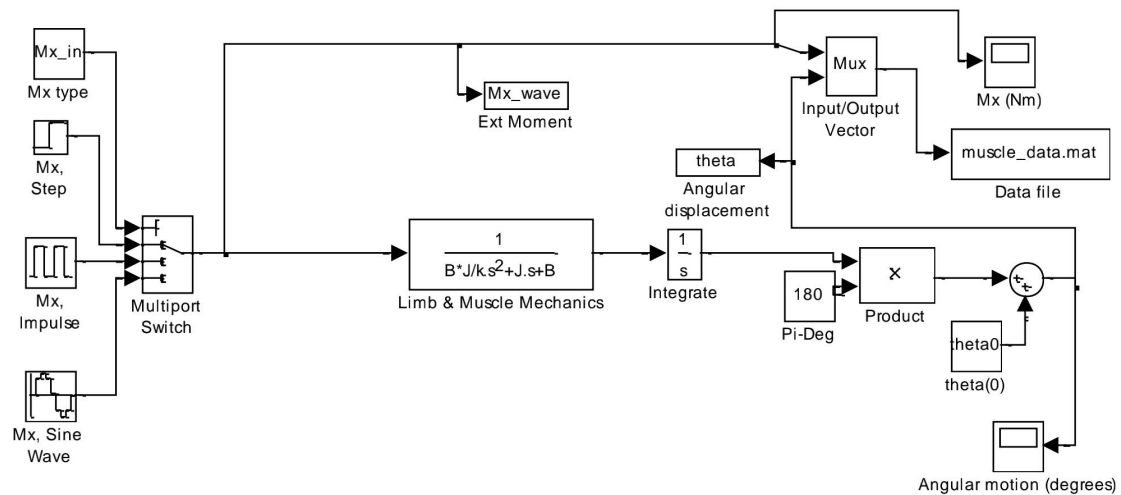

Figure 7. The SIMULINK model of the limb and muscle system.
Open the **bsm23muscles.mdl** file and insert the above transfer function as shown in figure 7.
- Wire the model as illustrated and double click on the Transfer Function box and enter the variables B , J and k as per equation (14). You will need to enter $[B*J/k \ J \ B]$. If you cannot see the equation as in Figure 7, just increase the size of the box.